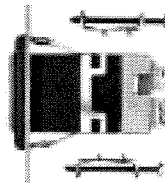

Figure 8: Single Unit
**Single units:** With leaf springs installed, push the SLC housing from the front of the panel. Secure the SLC housing with two mounting clips. Tighten the mounting clip screws to a torque of 4 to 5 kgf-cm as shown in *Figure 8*.